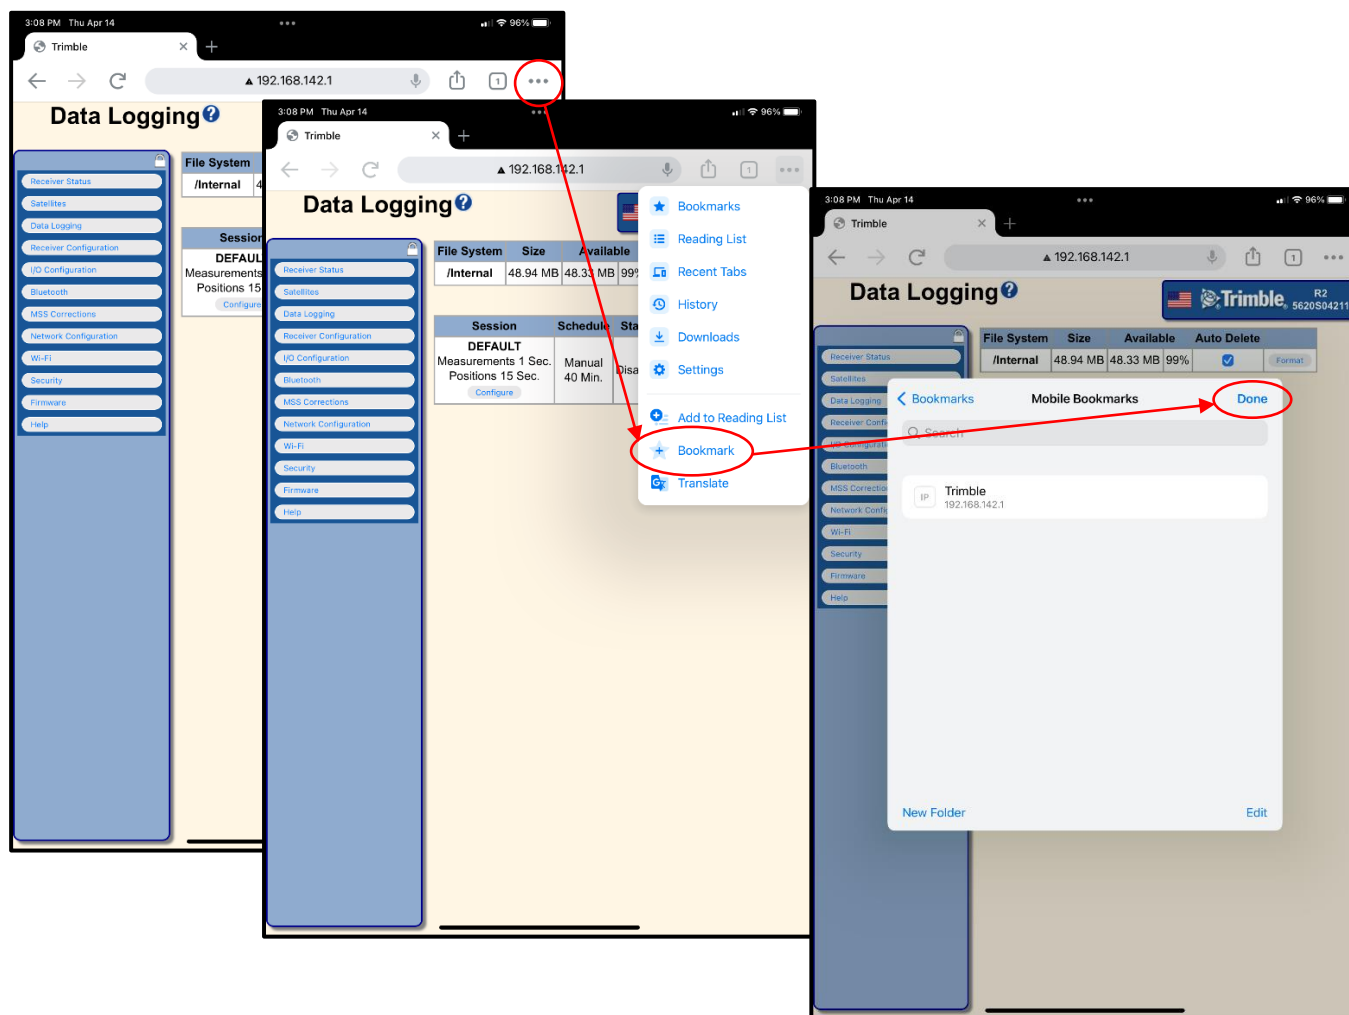

Figure 30. Figure showing Trimble R2 iPad Mini bookmark workflow displayed with red circles and arrows showing the workflow.
2. iOS devices (Using Google Chrome Web Browser) (Figure 30)